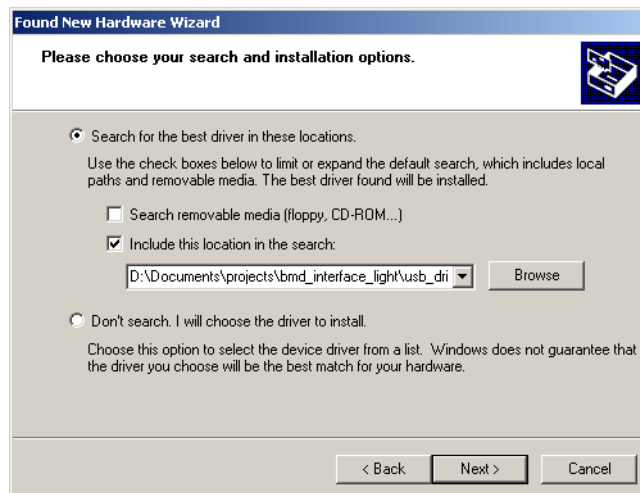

FIGURE 6. Specifying location of drivers
- Select option “Install from a specific location” and click next. Then specify location of the drivers (see figure 6).